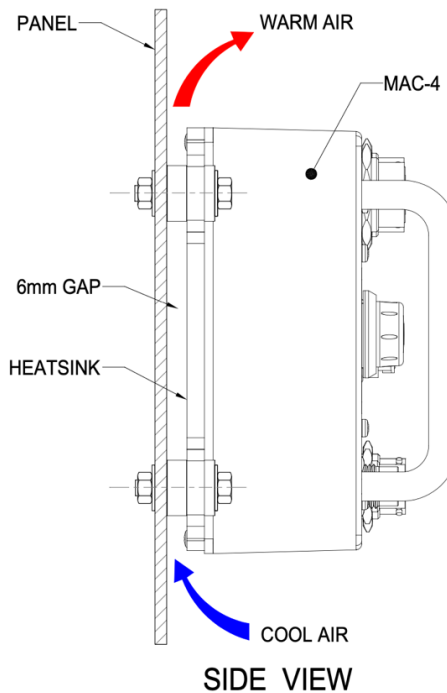

Fig 2
- At high ambient temperatures ($>30^{\circ}\text{C}$), forced air ventilation (fans) may be required to blow air onto the heatsink. At high temperatures it is recommended (where possible) to mount the MAC-4 vertically, as shown in Fig 2.